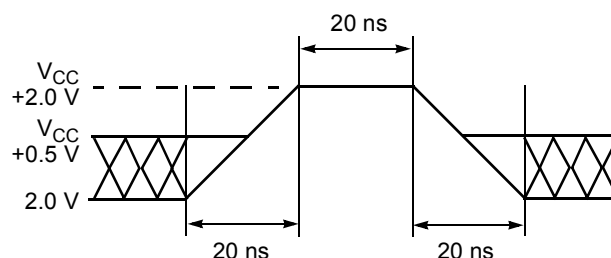

Figure 10. Maximum Positive Overshoot Waveform
1. Minimum DC voltage on input or I/O pins is -0.5 V. During voltage transitions, input or I/O pins may overshoot V_{SS} to -2.0 V for periods of up to 20 ns. Maximum DC voltage on input or I/O pins is $V_{CC} + 0.5$ V. See Figure 10. During voltage transitions, input or I/O pins may overshoot to $V_{CC} + 2.0$ V for periods up to 20 ns. See Figure 11.
2. Minimum DC input voltage on pins A9, OE#, ACC, and RESET# is -0.5 V. During voltage transitions, A9, OE#, ACC, and RESET# may overshoot V_{SS} to -2.0 V for periods of up to 20 ns. See Figure 10. Maximum DC input voltage on pin A9, OE#, ACC, and RESET# is +12.5 V which may overshoot to +14.0 V for periods up to 20 ns.